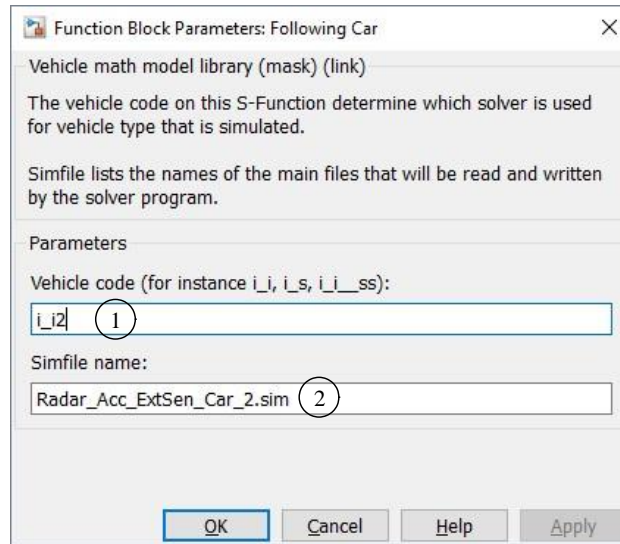

Figure 4. Parameters for the S-Function block for the second vehicle.
Notice that there are two vehicle blocks in the model. Double-click on the second one (2) to view the parameters for the function block (Figure 4). In most of the Simulink models using a VS S-Function, these parameters are set automatically. However, in this case, they were originally set by hand. The vehicle code is set to `i_j2`. The S-Function will use this to find a VS Solver file with the name `i_j2.dll`.
This dataset identifies the Simulink model file (1), the specific DLL file `i_i2.dll` to use for the vehicle type `ind_ind` (2), and the name to use for the Simfile (3). (A Simfile is used for every new simulation. It specifies the model type, names of i/o files and other information.) The Simfile name used in this dataset (3) must match the name specified in the Function Block Parameters window (2) (Figure 4). It is essential that the DLL file be compatible with Simulink in terms of 32/64 bit. If it is not, Simulink will crash when you try to run the simulation. A note in the miscellaneous yellow field identifies the DLL file needed for simulation with 64-bit Simulink. In this simulation, change `i_i2` to `i_i2_64` if you will run with 64-bit Simulink.